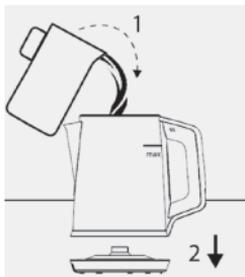

Figure 2- Adding Water in the Water Heater
- Fill the water heater (1) with water up to the max. line and replace it on the bottom unit (8). (Figure 2)